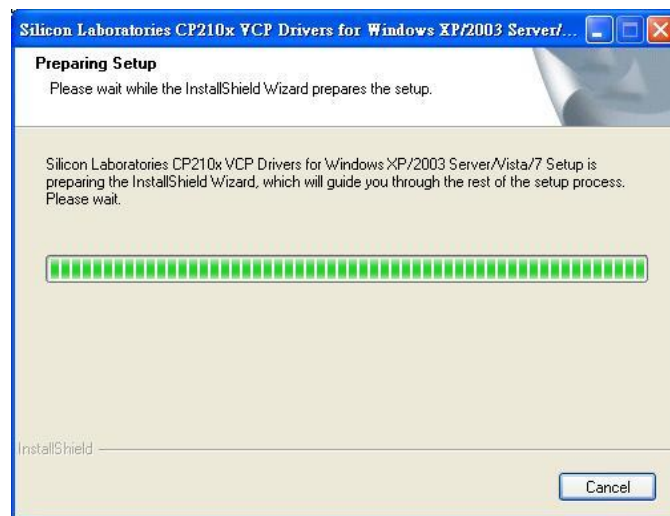

Figure 4-1: Preparing Setup Screen
Step 2: Run the **CP210x_VCP_Win2K_XP_S2K3.exe** file. The InstallShield Wizard prepares the setup as shown (Figure 4-1).